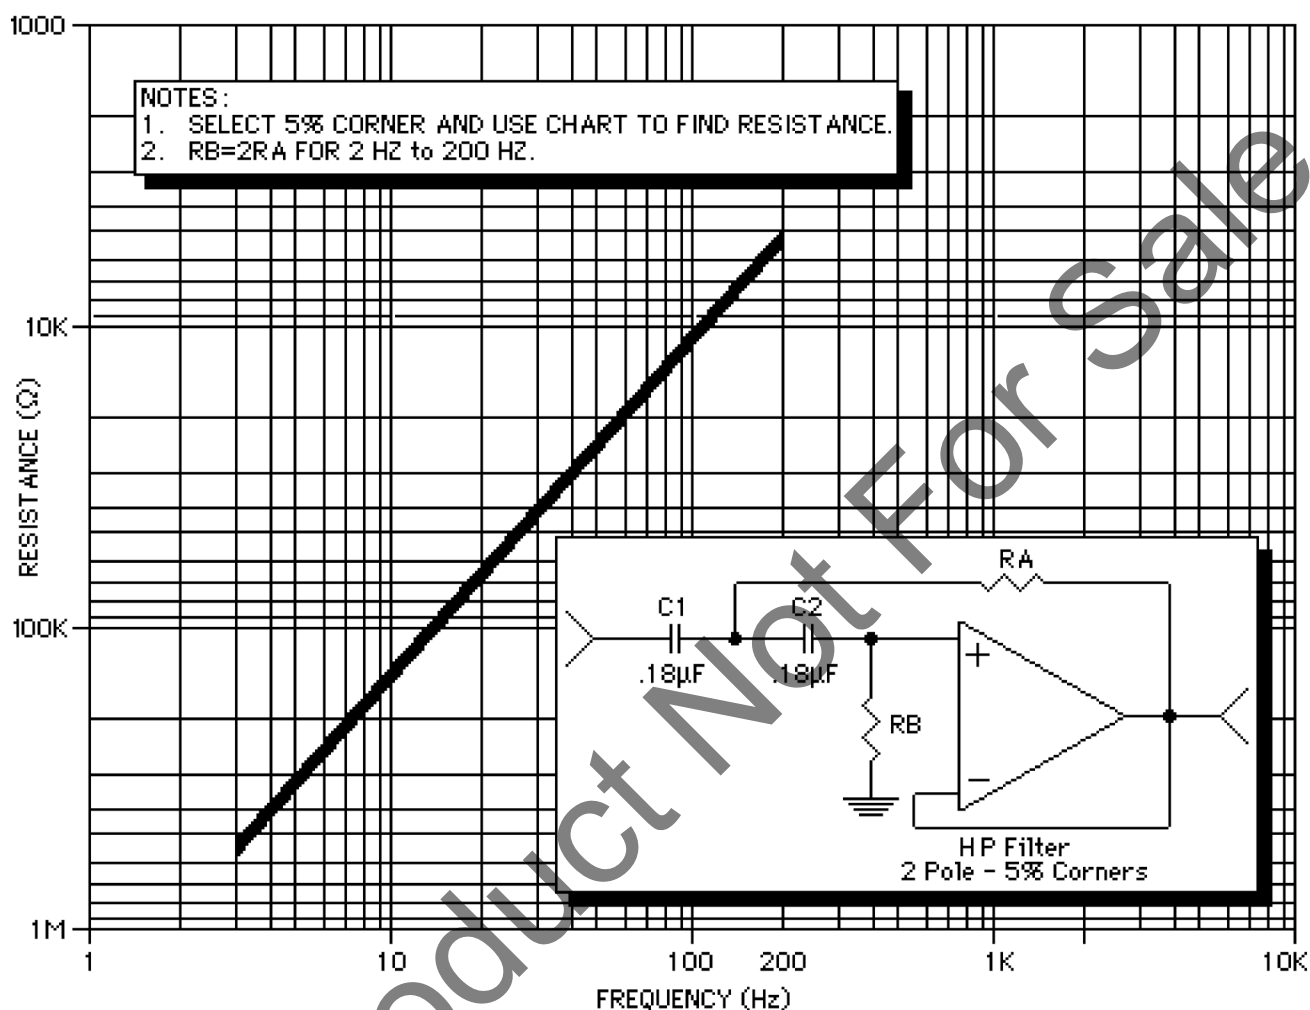

FIGURE 6-3: HIGH-PASS RESISTOR SELECTION CHART
1. Select a desired cut-off frequency and, using Figure 6-3, first determine the resistance value of resistors RA.